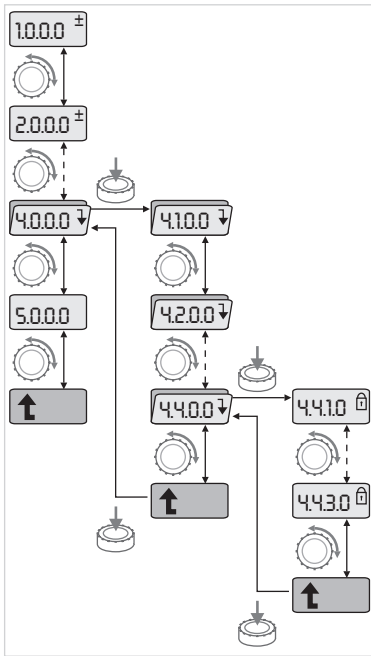

Fig. 37: Navigation example
- Carry out general menu navigation as follows (for an example, see Fig. 37):